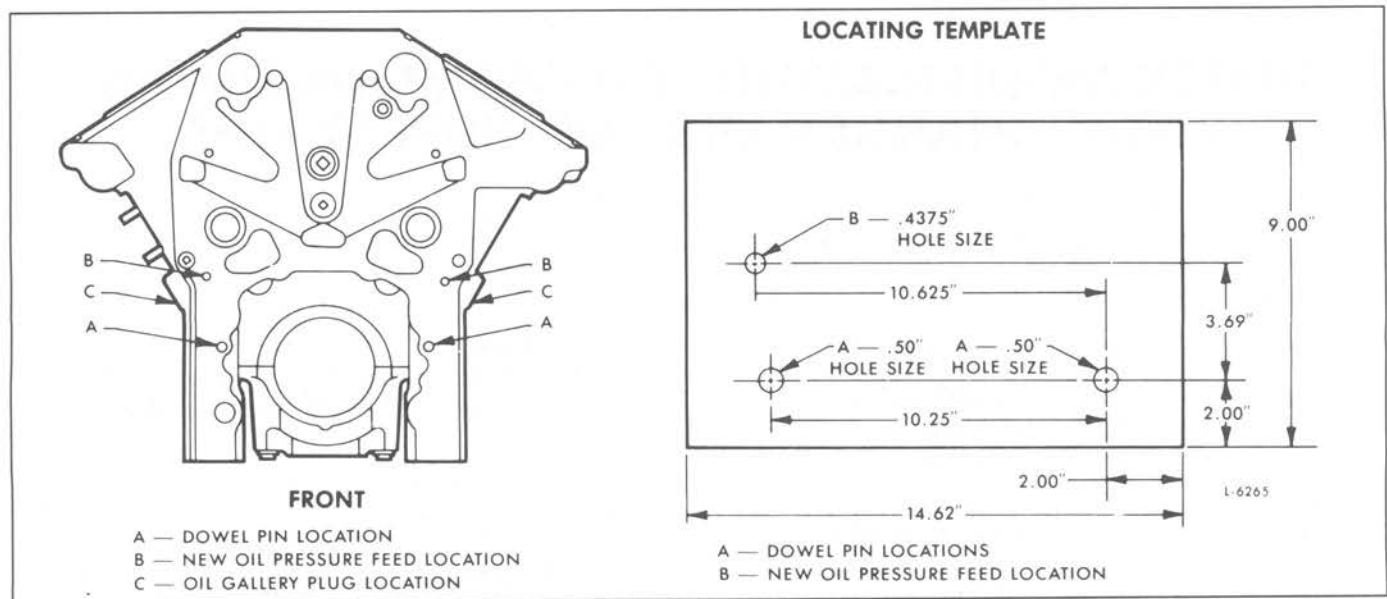

Fig. 2 - Locating Template
1. Fabricate the locating template shown in Fig. 2.
2. With the cylinder block completely stripped, mount the locating template on the block dowel pins (see Fig. 2 for establishing hole location).
4. Remove the oil gallery plug (location "C" in Fig. 2) and blow out all metal chips using an air hose and suitable nozzle.